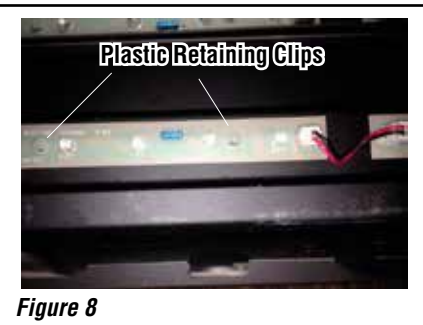

Figure 8
- ii. Using needle-nose pliers, squeeze the plastic clips holding the LED strips in place and push them through the holes in the LED strips (see **Figure 8**). Unclip the wires from the LED strips and remove them. Insert new LED strips and re-connect the associated wiring.